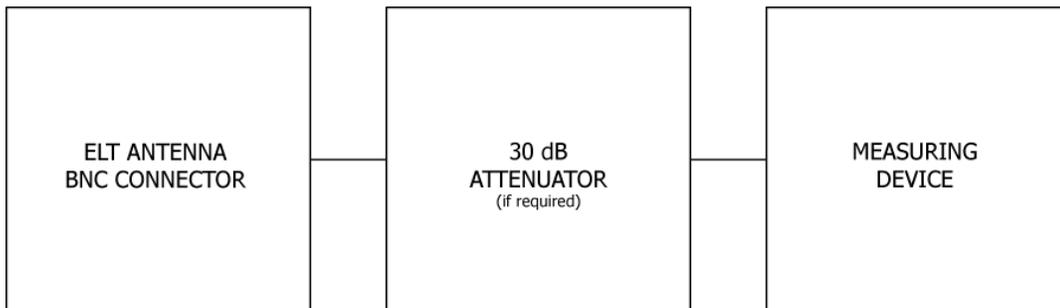

Figure 7 Performance Test Setup
- a) The ELT 4000 firmware continually keeps track of the beacon run time. The beacon controller microprocessor writes the operating time information to a memory Integrated Circuit (IC) in the battery pack, keeping the information up to date. Per FAA TSO requirements, an ELT battery must be replaced if the operation time is greater than one hour.
- 3) For final airworthiness verification, the ELT's own battery pack should be used as the power source for these measurements. An alternate power source should be used where lengthy servicing, other than the performance tests, is anticipated. Expired battery packs can be used if the airworthiness performance of the battery pack in the system is not required. The battery packs are capable of at least fifty (50) hours of operation at the end of five years of battery life.
- 4) To prevent damage to the measurement equipment from the 5W, 406 MHz burst, install an RF attenuator (rated 50 ohm) between the ELT antenna output and the measurement equipment. Typical attenuation is 30 dB, 50 ohm, and rated at 5 watts for 1/2-second duration (see Figure 7).
- 1) Connect the measuring device as specified in Figure 7.